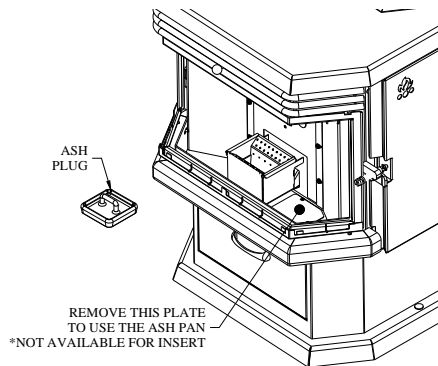

Figure 45
- f. Periodically remove and empty the ash drawer (see Figure 45 & 46) by opening the front lid of the pedestal below the ash lip. Dispose of ashes properly. (See "ASH REMOVAL" above)